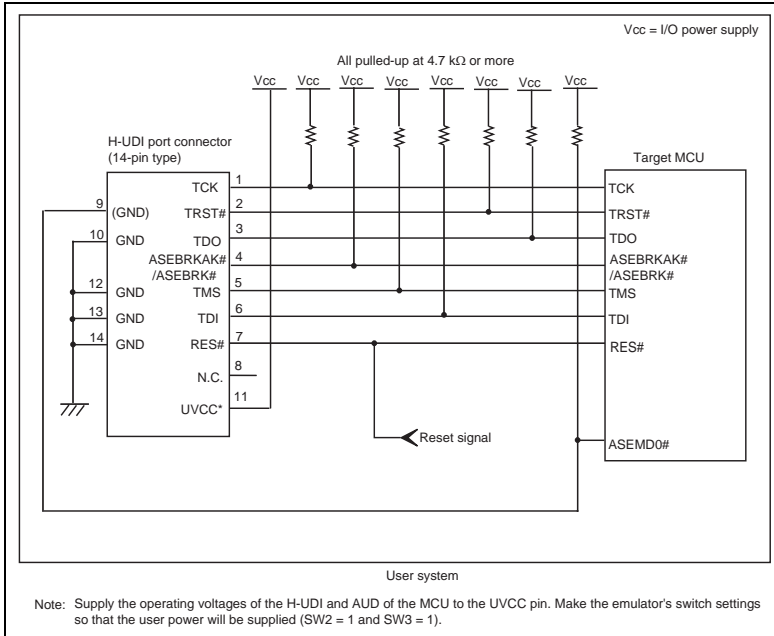

Figure 1.4 Recommended Circuit for Connection between the H-UDI Port Connector and MCU when the Emulator is in Use (14-Pin Type)
Figure 1.4 shows a recommended circuit for connection between the H-UDI port connector (14 pins) and the MCU when the emulator is in use.
- (1) When the emulator is used: ASEMD0# = 0
- (2) When the emulator is not used: ASEMD0# = 1Figure 1.4 shows an example of circuits that allow the ASEMD0# pin to be GND (0) whenever the emulator is connected by using the user system interface cable. When the ASEMD0# pin is changed by switches, etc., ground pin 9 of the H-UDI port connector. Do not connect this pin to the ASEMD0# pin.
6. The resistance value shown in figure 1.4 is for reference.
When the circuit is connected as shown in figure 1.4, the switches of the emulator are set as SW2 = 1 and SW3 = 1. For details, refer to section 3.8, Setting the DIP Switches, in the SuperHT™ Family E10A-USB Emulator User's Manual.